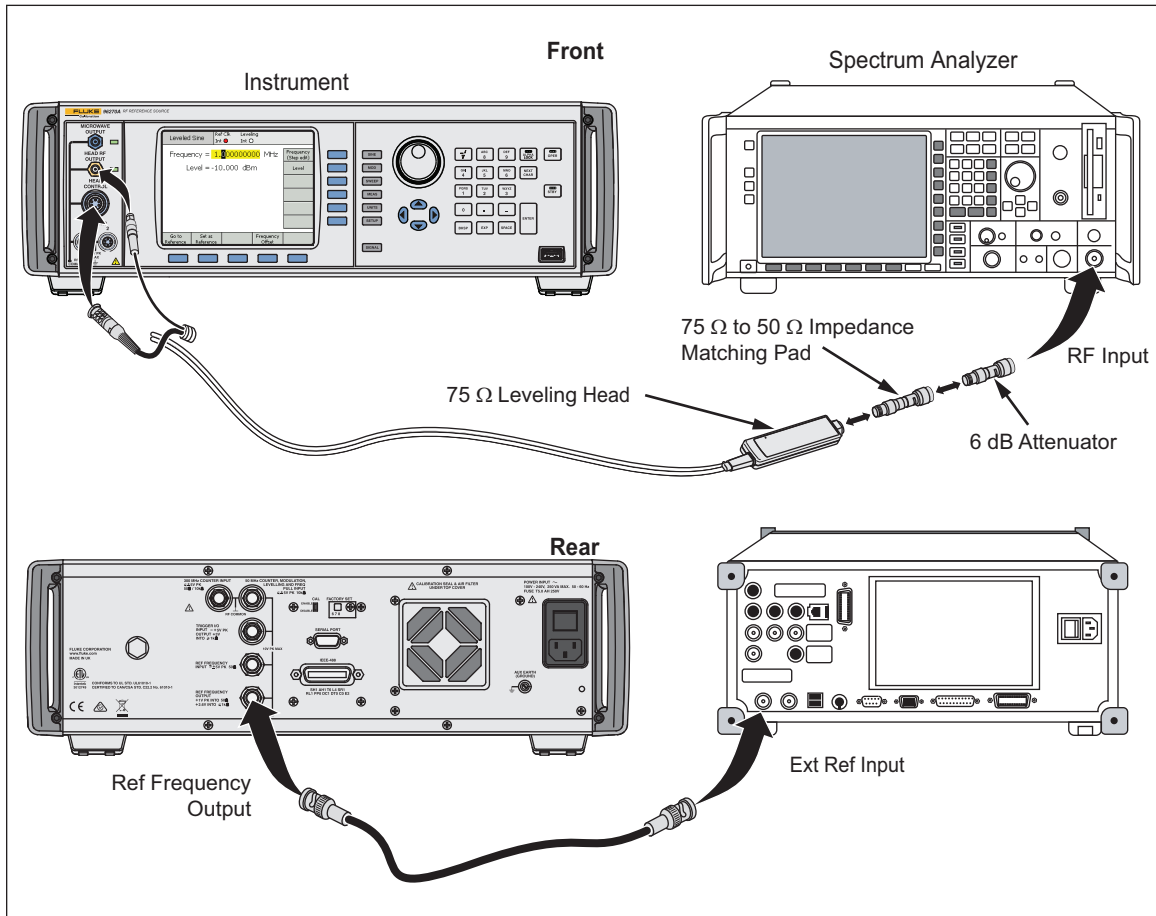

Figure 3-13. Equipment Connections - Attenuation Accuracy Test 75 Ω Leveling Head (96040A and 96270A)
1. Connect the 75 Ω Leveling Head to the RF INPUT of the Measuring Receiver via a 75 Ω to 50 Ω impedance-matching pad and 6 dB attenuator. Connect the REF FREQUENCY OUTPUT (rear panel) from the UUT to the Spectrum Analyzer Ext Ref In (on rear). See Figure 3-13 for equipment connections.